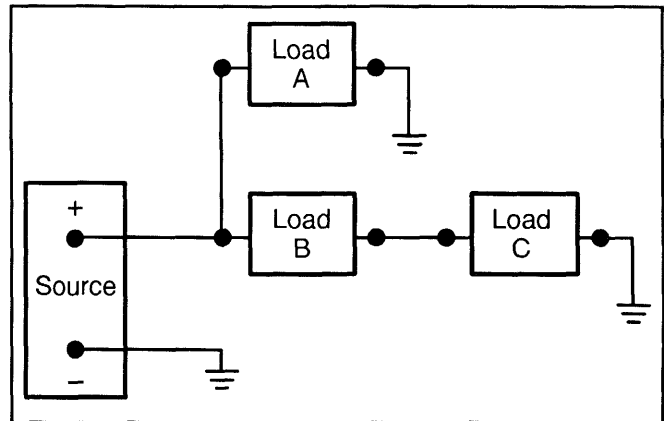

Figure 14 —Series/ Parallel Circuit
**SERIES/PARALLEL CIRCUITS (Figure 14)** – A series/parallel circuit consists of a single current path and a circuit with more than one current path to and from the power source.